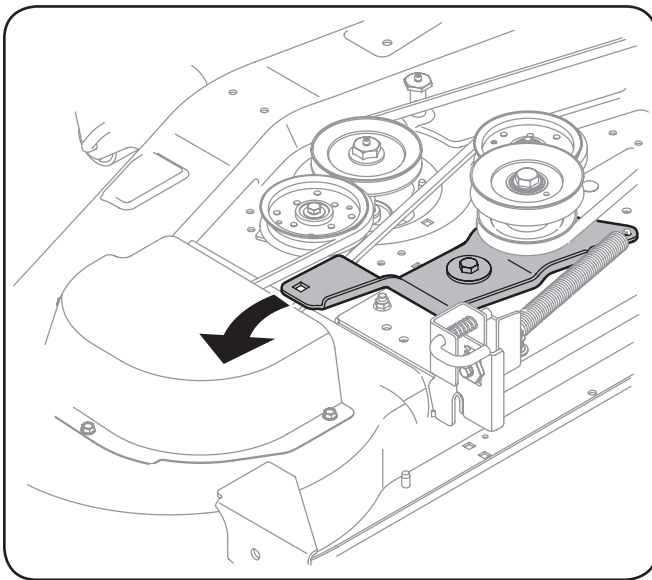

Figure 4-1
4. Pivot the wrench rearward to move the deck drive pulley forward. See Fig. 4-1
4. Pivot the wrench rearward to move the deck drive pulley forward and relieve tension on the deck belt. Refer to Fig. 4-1.